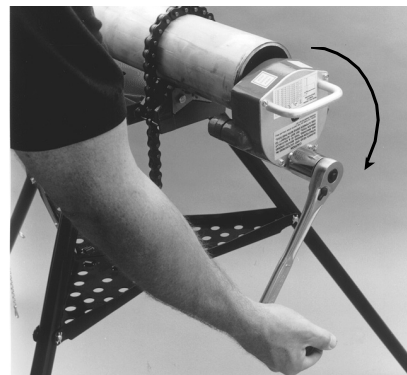

Fig. 4.
4. Prepare a trial groove by tightening the brass feed nut the recommended turn increment, and then by turning the crank nut clockwise until the roll groover has made one full revolution around the pipe. (See Fig. 4.)